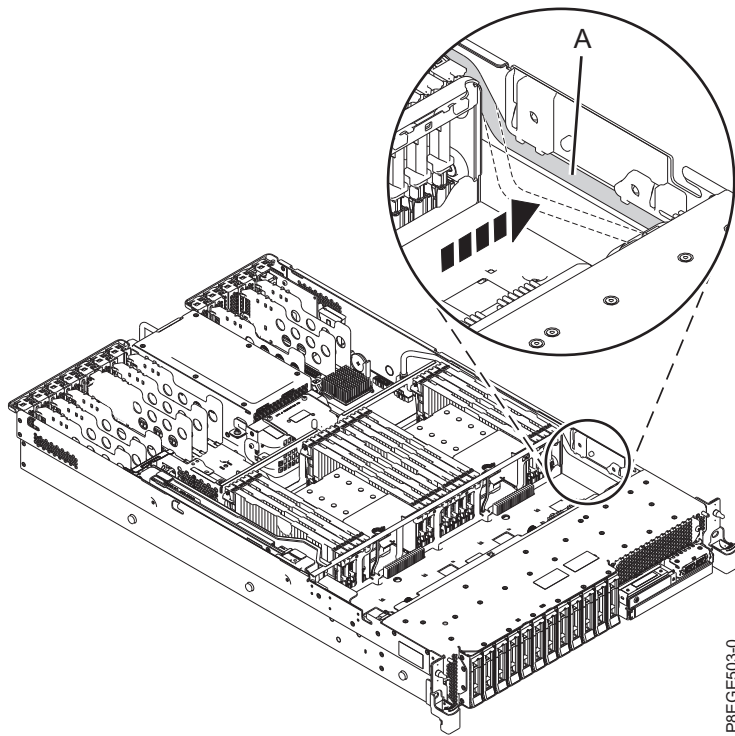

Figure 5. Installing the front USB cable in the cable channel
5. Push the front USB cable (A) into the cable channel as shown in Figure 5 on page 7.